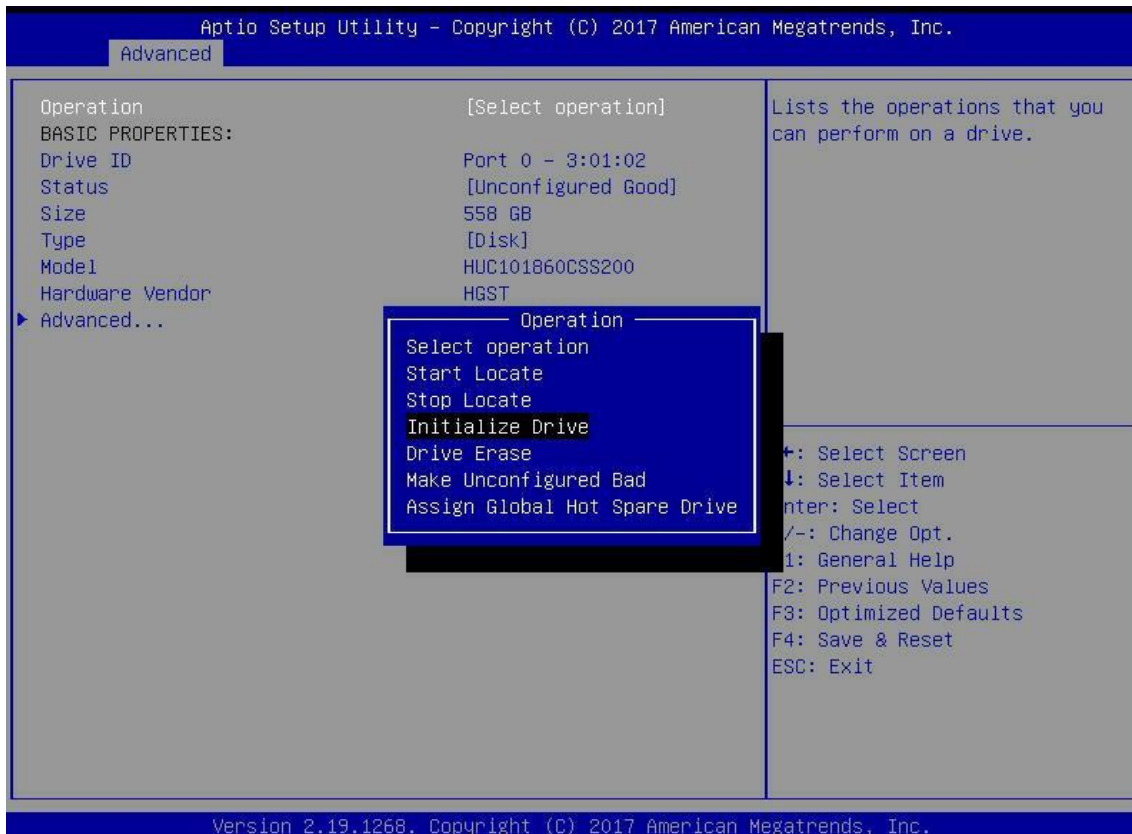

Figure 6-49
c) Enter the interface shown in figure 6-49, select operation, press enter, and then select initialize drive in the pop-up dialog box, and press enter.